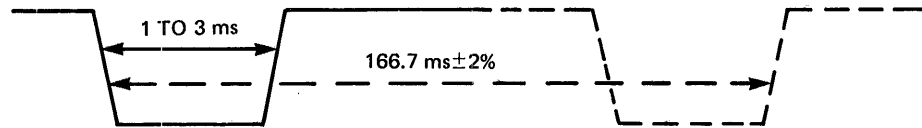

Figure 5-6 Waveforms at TP7 and TP10
- a. When using a single-sided flexible disk, measure the waveform at TP10, checking for a pulse width of 1 to 3 ms (see Figure 5-6).
- b. When using a dual-sided flexible disk, measure the waveform at TP7 checking for a pulse width of 1 to 3 ms (see Figure 5-6).